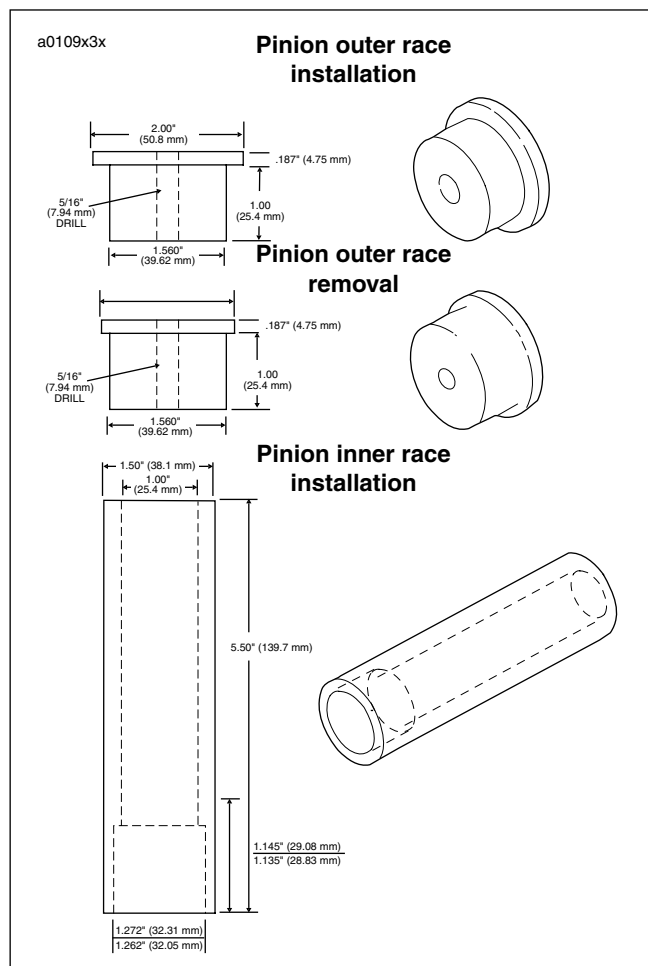

Figure 3-121. Pinion Shaft Bearing Tools
See Figure 3-121. Dimensions are shown for fabrication of tools used in pressing the outer race into or out of crankcase.
8. Press **new** inner race on pinion shaft as shown. The **new** inner race must be ground by a competent machinist to OD dimension range for the finished lapped ID of the outer race. See Table 3-36. The finished inner race must meet these specifications. For necessary dimensions for constructing a press-on tool see Figure 3-121. When the tool bottoms against the flywheel, correct inner race location is automatically established.